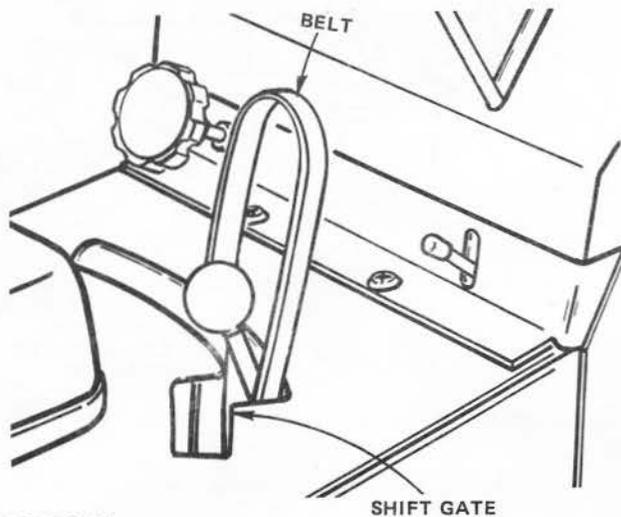

FIGURE 33
- h. Pull Belt out through Shift Gate to remove from tractor (Fig. 33).